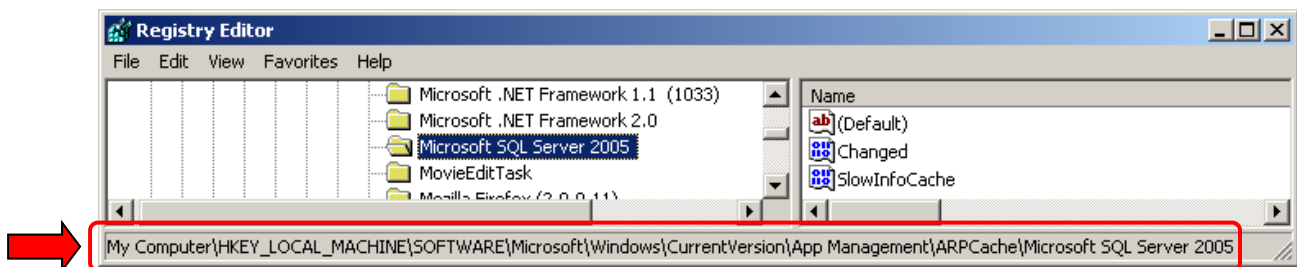

Figure II-35. Full Path Indicator on Registry Editor Window
- c) The red arrow to the left of Figure II-35 shows where you can view the full path of the item that is found.